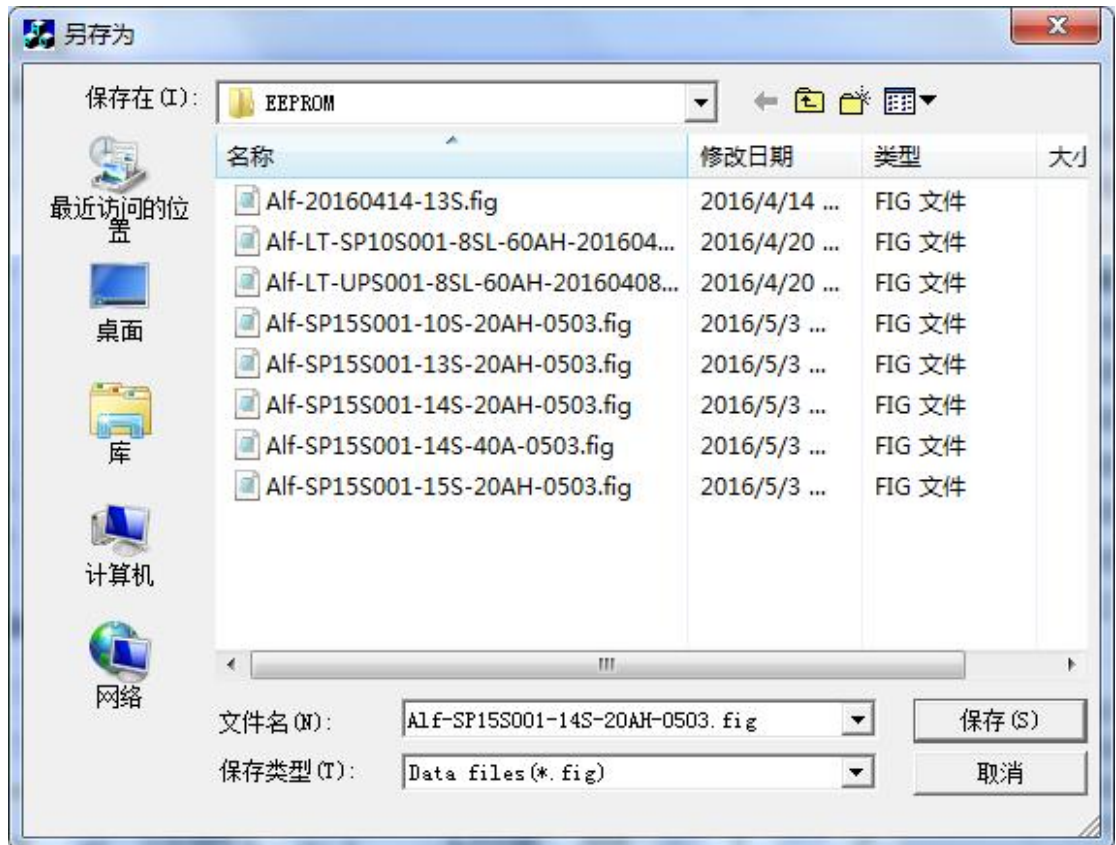

Figure 8
**3. Save the parameters:** This function is to save the PC software parameters in the form of files (\*.fig), its name can be set by the user, like Figure 8.